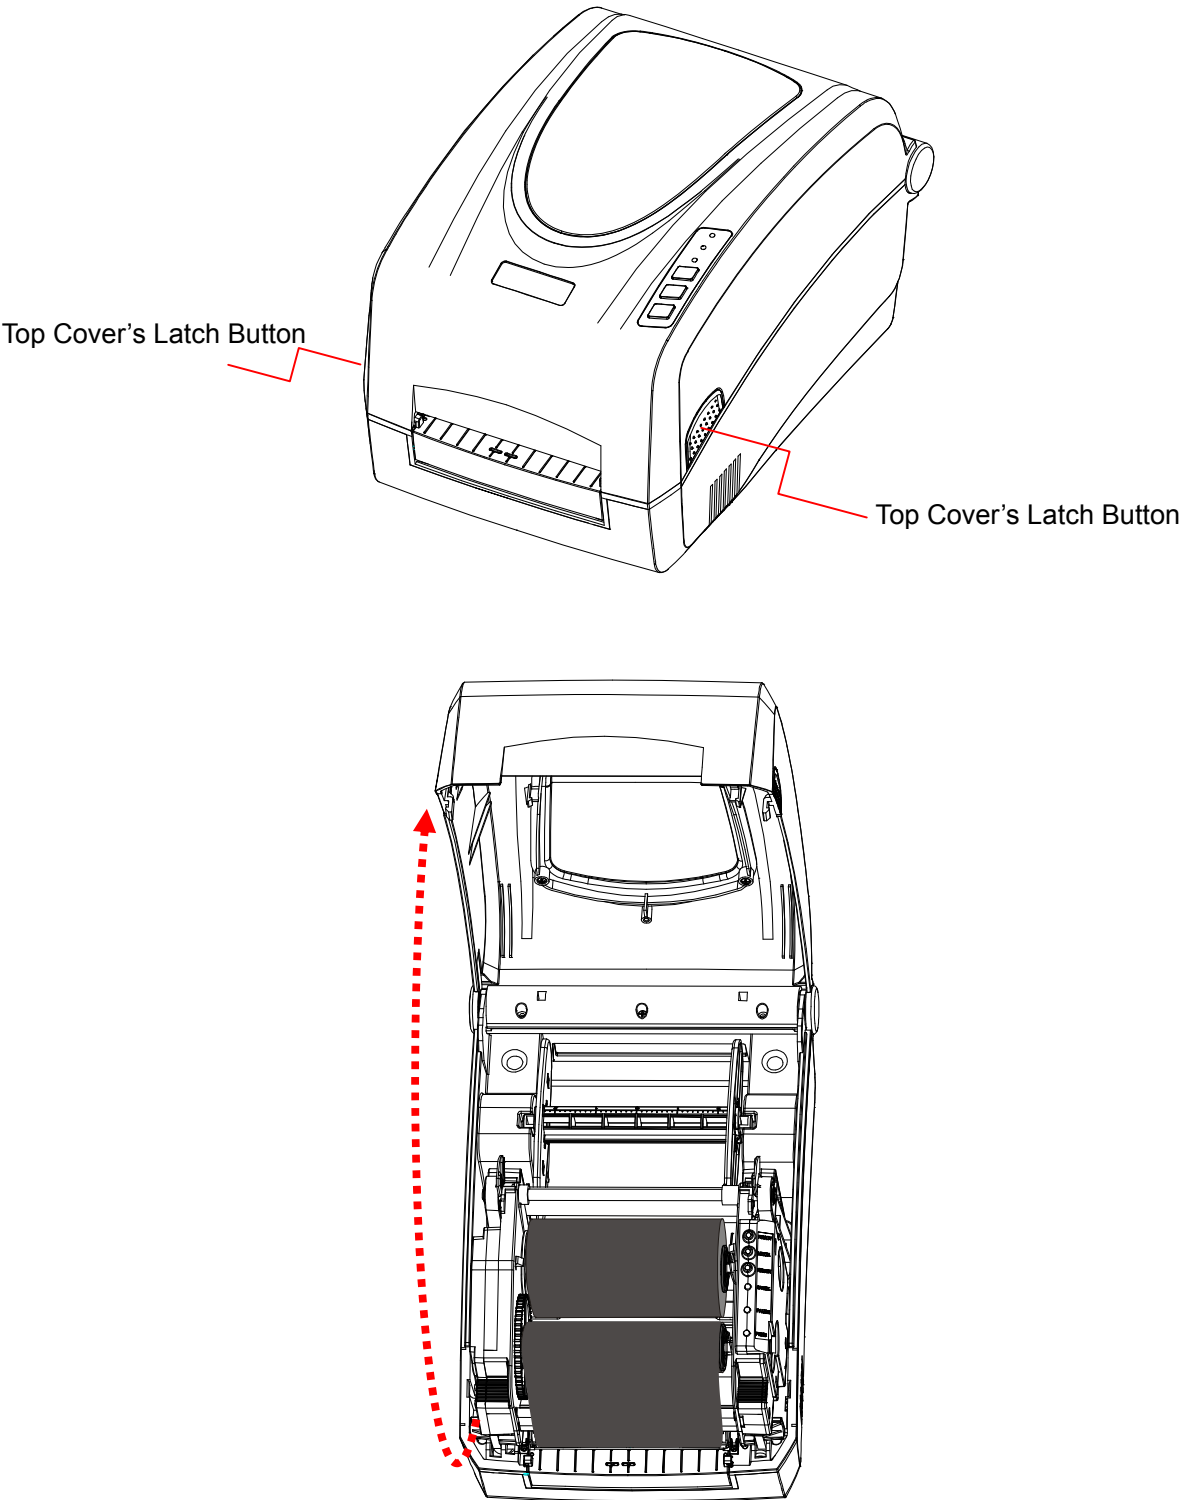

Figure 6-1
1. Push the left and right Top Cover's Latch Button to lift the top cover. (see Figure 6-1).